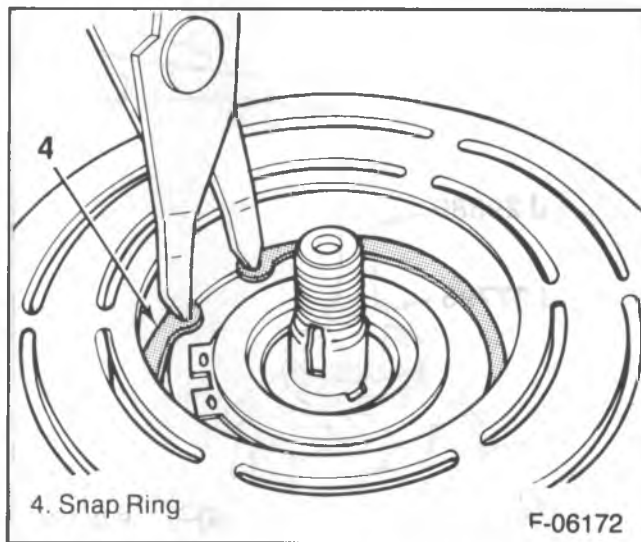

Figure 6—Removing the Internal Snap Ring
4. Internal bearing snap ring (4) with internal type snap ring pliers (figure 6).